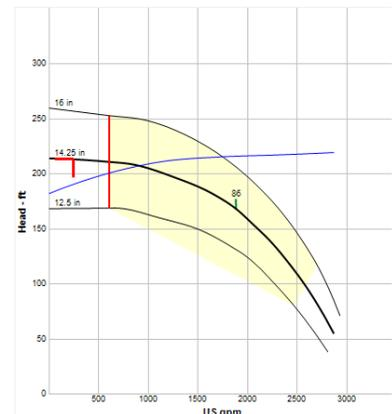

Figure 3. Incorrect SRC with parallel pumps not isolated.
- In v2009, all centrifugal pumps (regardless of the operating mode) except the selected pump were automatically isolated before the SRC was generated. In v12, other centrifugal pumps are not automatically isolated. This may result in an inaccurate curve as shown in Figure 3.